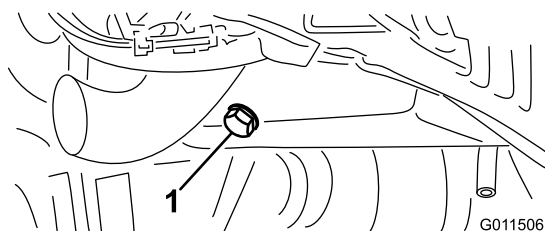

Figure 53
1. Remove either drain plug (Figure 53) and let the oil flow into a drain pan. When the oil stops, install the drain plug.